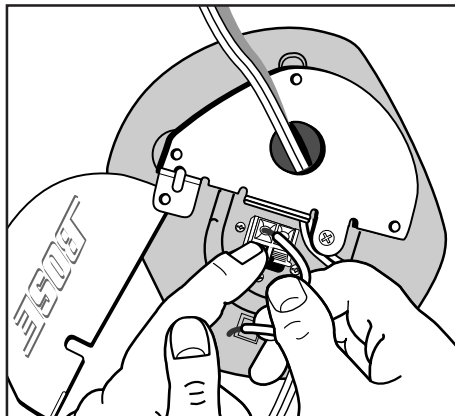

Figure 20
2. Insert the stripped end of wires (Figure 20).